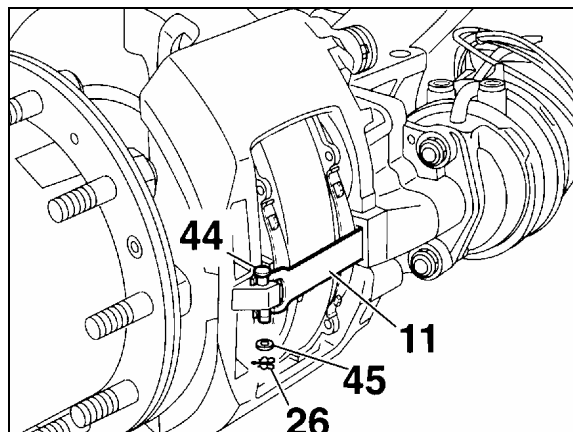

FIGURE 22: CLEARANCE INSPECTION
Remove clip and washer (26 & 45, Fig. 22), push down retainer bar (11), pull out pin (44) and remove retainer bar. Push caliper toward actuator (center of vehicle) for maximum clearance.